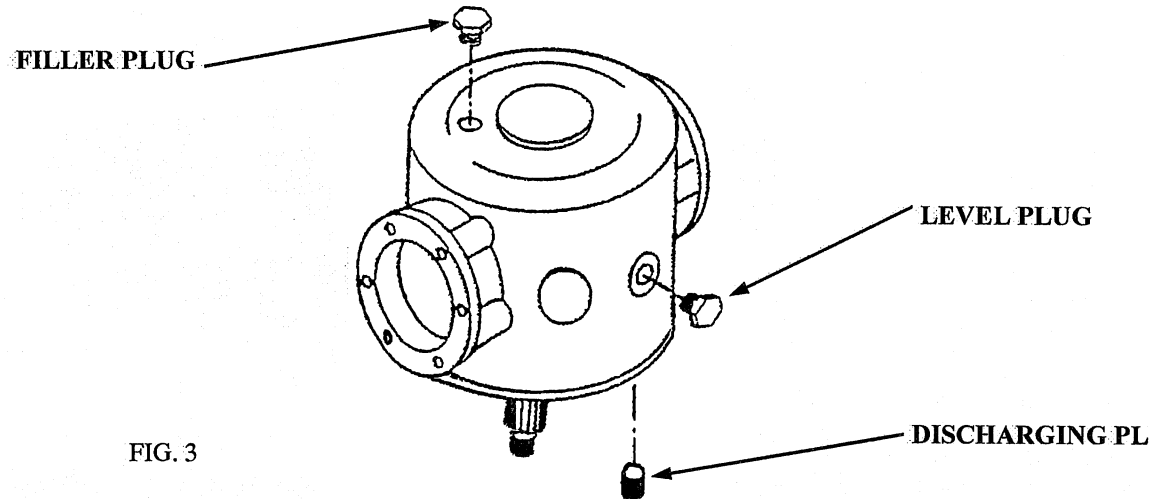

FIG. 3
- Check the oil level in the gearboxes of the lateral transmissions. For each gearbox this operation is carried out by unscrewing the level plug (see fig. 3) and by controlling that the oil leaks out. If needed to add oil, unscrew the filler plug located on top of the box and fill in the oil until it leaks out through the level hole.